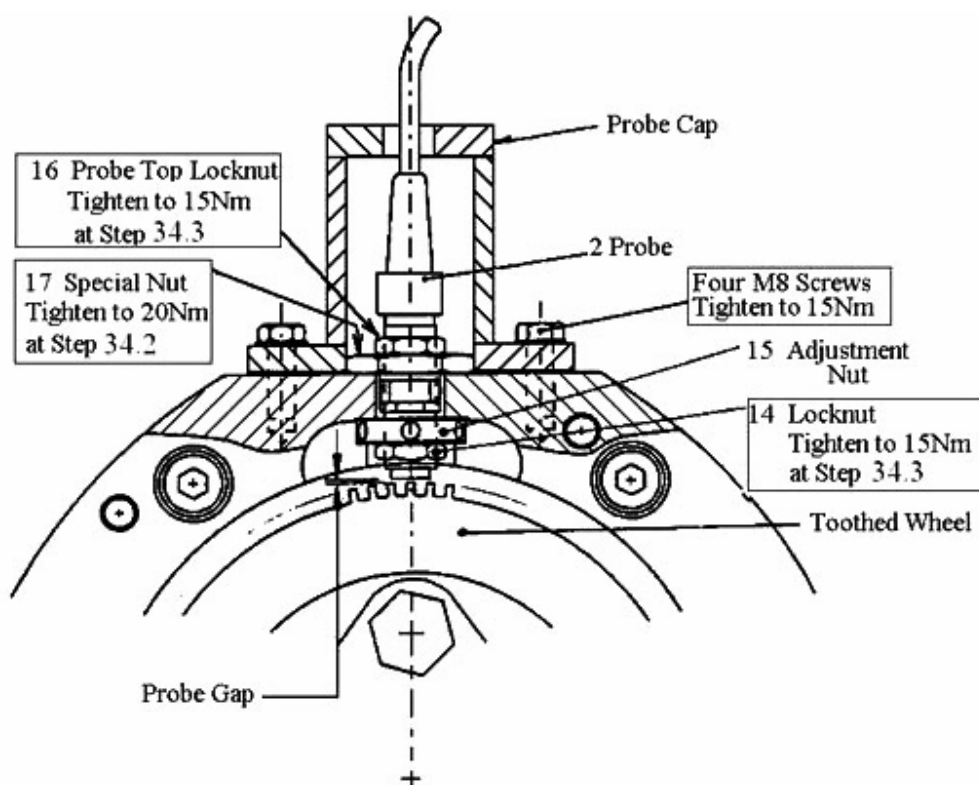

Figure 34.1: BR WSP Probe Detail - Revised Design
34. Fit the BR WSP Probe as follows (see Figure 34.1):